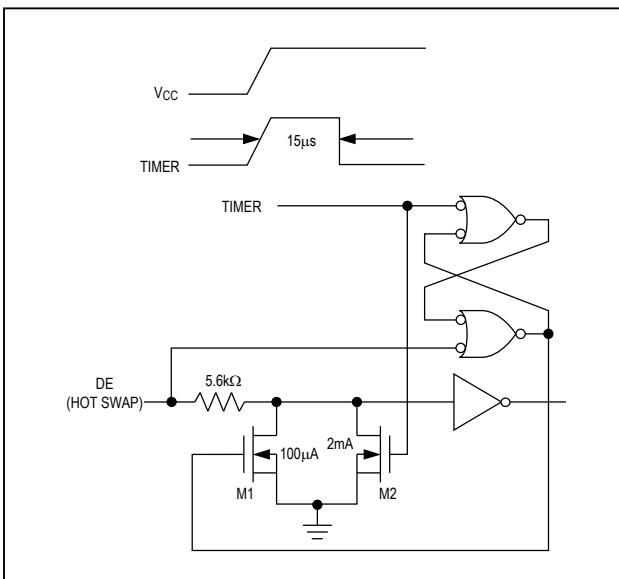

Figure 10. Simplified Structure of the Driver Enable Pin (DE)
At the driver-enable input (DE), there are two nMOS devices, M1 and M2 (Figure 10). When V_{CC} ramps from zero, an internal 15 μ s timer turns on M2 and sets the SR latch, which also turns on M1. Transistors M2, a 2mA current sink, and M1, a 100 μ A current sink, pull DE to GND through a 5.6kW resistor. M2 pulls DE to the disabled state against an external parasitic capacitance up to 100pF that may drive DE high. After 15 μ s, the timer deactivates M2 while M1 remains on, holding DE low against three-state leakage currents that may drive DE high. M1 remains on until an external current source overcomes the required input current. At this time, the SR latch resets M1 and turns off. When M1 turns off, DE reverts to a standard, high-impedance CMOS input. Whenever V_{CC} drops below 1V, the input is reset.